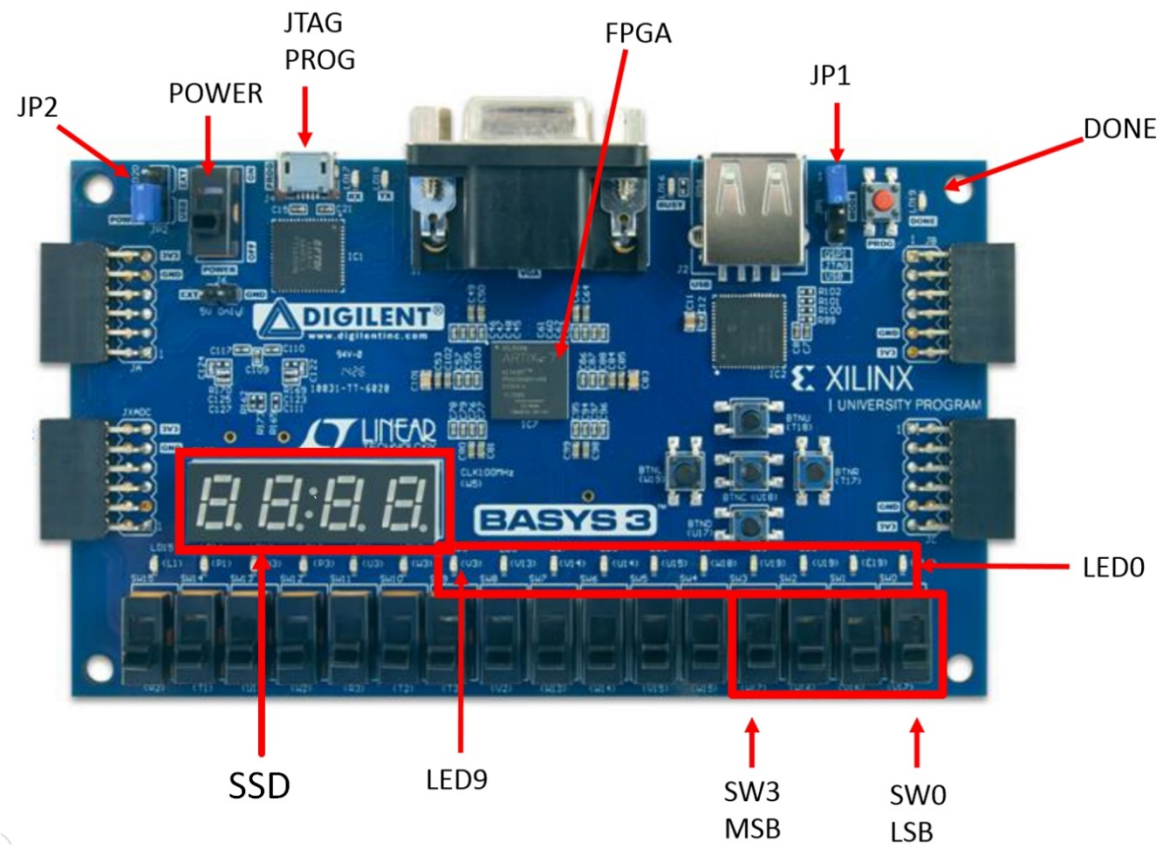

Figure 3: Basys3 Artix-7 FPGA Trainer Board Layout
In this laboratory session, we will be designing a time multiplexed SSD driver by programming the FPGA chip on the Basys3 board as shown in **Figure 3**. The 16 data switches are BCD inputs for the four SSD. The four data switches on right will control the rightmost SSD and display '0' to '9' accordingly. If the BCD input is "0000" (switch position is down for logic '0'), it will display '0'. If the BCD input is "1001" (switch position is up for logic '1'), it will display '9' etc. However, at other combinations the SSD should not be displaying anything. When the reset (centre) button is pressed and held, it will display the rightmost SSD and blank out the rest of the other three SSDs.
- 6.1 Connect the Micro-USB socket of the cable to the JTAG PROG connector (refer to **Figure 3**) of the Basys3 board and the USB socket to your computer. Make sure that the JP1 jumper is connected as shown in **Figure 3**.
- 6.2 Make sure that the JP2 jumper is connected to use USB power as shown in **Figure 3**. Power **ON** the board.
- 6.8 Click **Program** to program the FPGA. The DONE light (refer to **Figure 3**) will light when the device is programmed. You may see some other LEDs lit depending on switch positions.